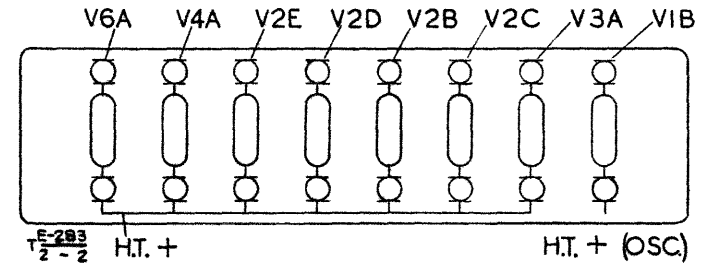

Fig. 2—I.F. chassis voltage panel
**I.F./A.F. chassis voltage test panel (Fig. 2)**